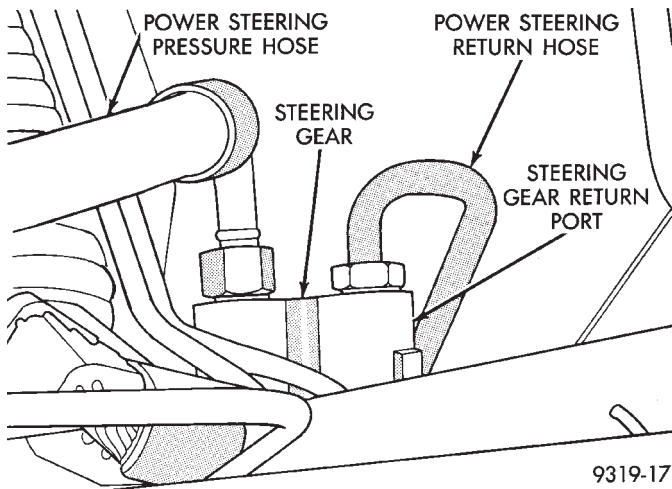

Fig. 5 Power Steering Return Hose At Steering Gear
(1) Position drain pan under vehicle for leaking power steering fluid. Loosen and remove the power steering return hose fitting (Fig. 5) from the power steering gear. Let power steering fluid drain from hose.
(2) Raise vehicle on jackstands or centered on a frame contact type hoist. See Hoisting in the Lubrication and Maintenance section of this manual, for the required lifting procedure to be used for this vehicle.